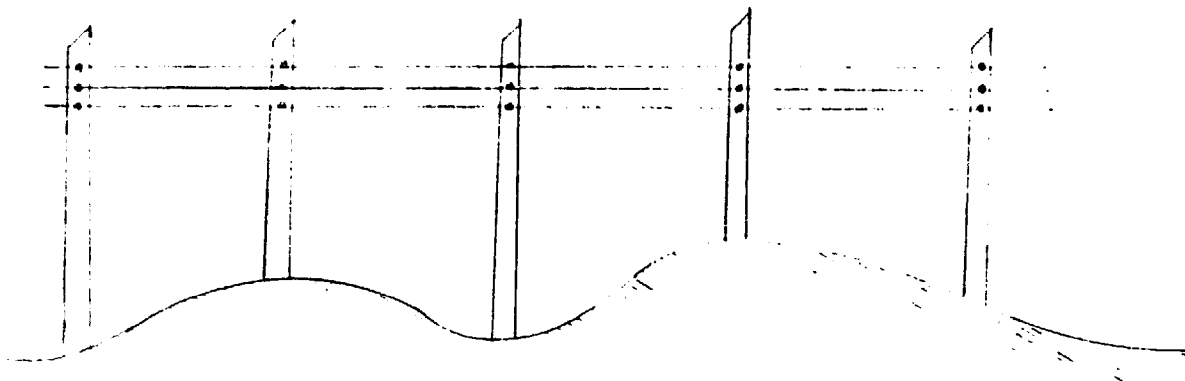

Fig. 4.4
3. Locate to give horizontal grade. (See Figure 4.4)